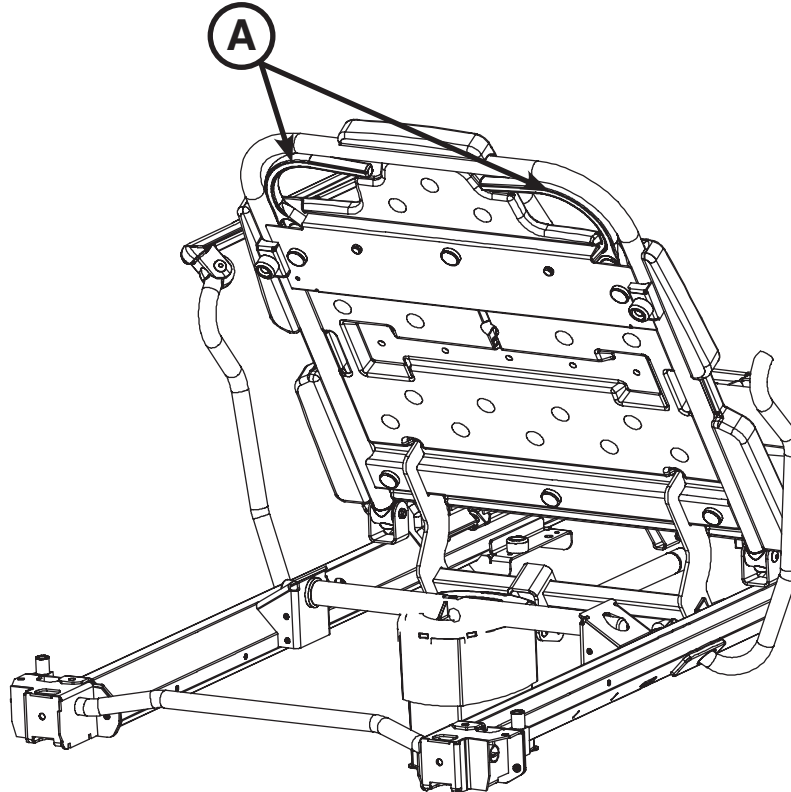

Figure 10: Pneumatic Fowler
To raise the fowler, squeeze either or both of the yellow fowler handles (A) for pneumatic assist until the fowler has reached the desired angle (between 0 and 90 degrees) as shown in Figure 10.
To lower the fowler, squeeze either or both of the yellow fowler handles (A) and push down until the fowler has reached the desired angle (between 90 and 0 degrees) as shown in Figure 10.